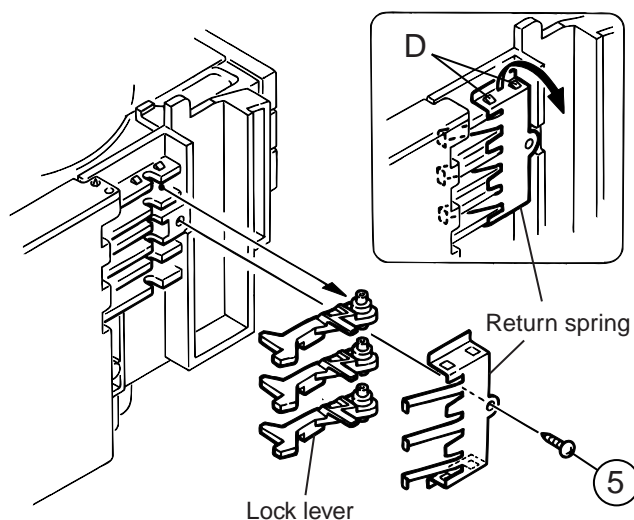

Fig.4
8. From the left side face of the chassis assembly, remove the one screw 5 retaining both of the return spring and lock lever(See Fig. 4).
9. By removing the pawl at the section "D" fixing the return spring, dismount the return spring(See Fig.4).
10. Remove the three lock levers(See Fig.4).